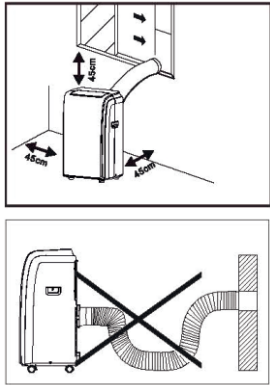

Fig. 2
- 1 Extend either side of the hose (Fig.1)and screw the hose inlet (Fig.2).